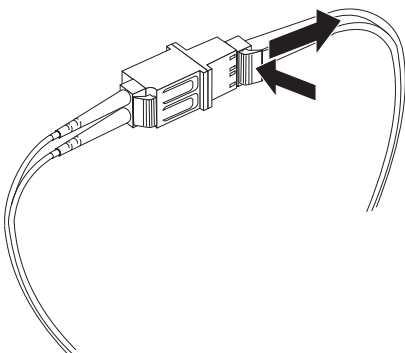

Figure 3-21. Removing the LC-LC Fibre Channel cable from an LC-SC Fibre Channel cable adapter
2. Carefully pull the connector to remove it. Ensure that you grasp the connector and not the cable when removing the LC-LC cable from the LC-SC cable adapter as shown in Figure 3-21.